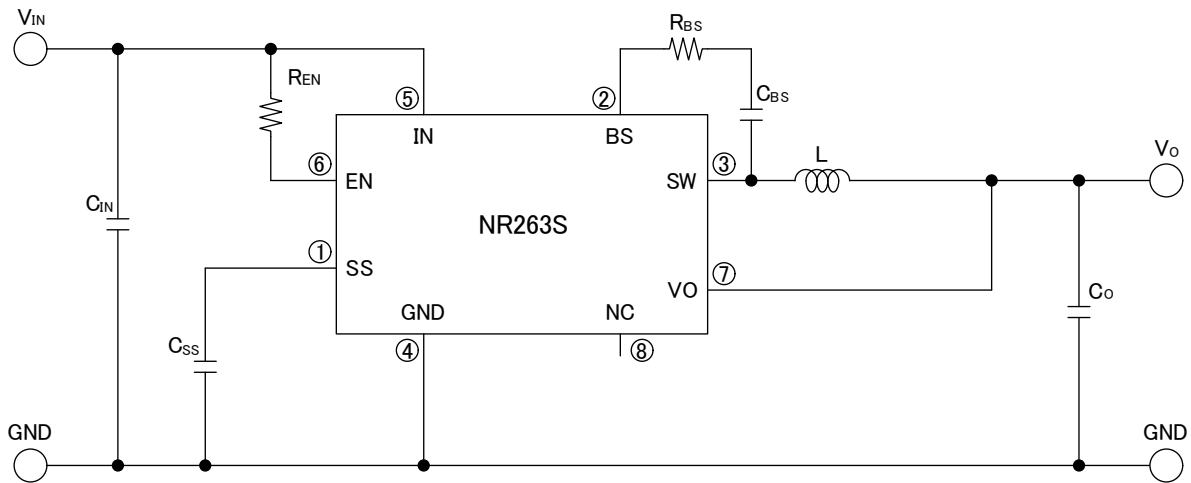

Fig. 3-1 NR263S Standard connection
(3) Refer to “Fig3-1 Typical Application Circuit”
Standard connection is shown in Fig3-1.